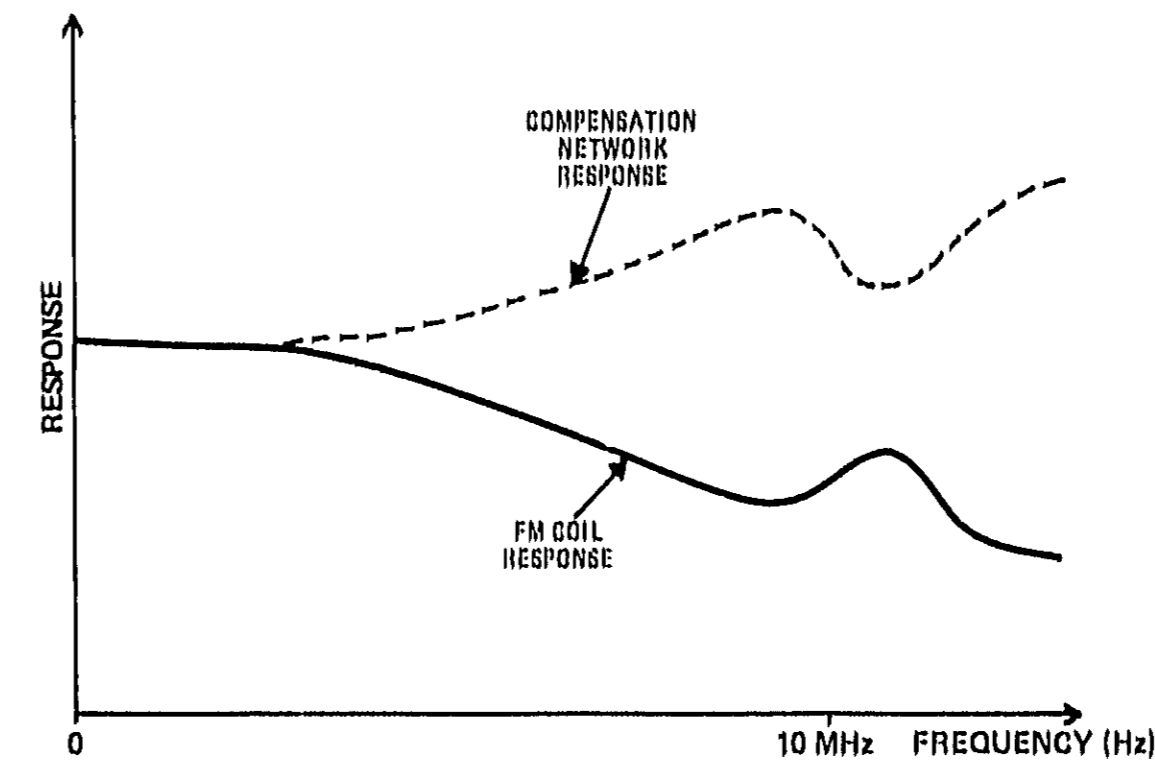

Figure 8-36. Plot of FM Coil Response Versus Modulation Frequency
The output of the filter network is limited to about ± 3 Vdc with a network made up of VR1, VR2, R14, R15, CR3, and CR4. Q5A and Q5B are connected as emitter followers and buffer the output of the filter network to video amplifier U10. Analog switch U11 is always set to switch position zero. Frequency response shaping to compensate for the roll-off versus frequency of the FM coil is produced by the network made up of C11, C12, C14, R21, R22, R23, R75, and L1 connected across pins 9 and 4 of U10. This network is actually in the emitter of the input differential amplifier of U10 producing greater gain with decreasing impedance. Figure 8-36 shows the approximate response versus frequency of the YIG FM coil and the compensation network. Adjustments R19 (FM OFFSET), R75 (H1), and C14 (LO) adjust the shape of the compensation network response.